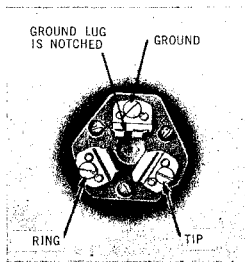

Fig. 9 — Connections for KS-8420 and KS-8421 Jacks
4. Connect wire as shown in Fig. 9.